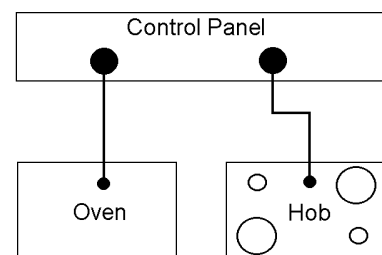

Fig. 2
- If you wish to connect an oven and a hob to a cooker point you can by connecting the oven and hob separately to the cooker point. Oven and hob units should be separately connected to a control panel. See Fig. 2.